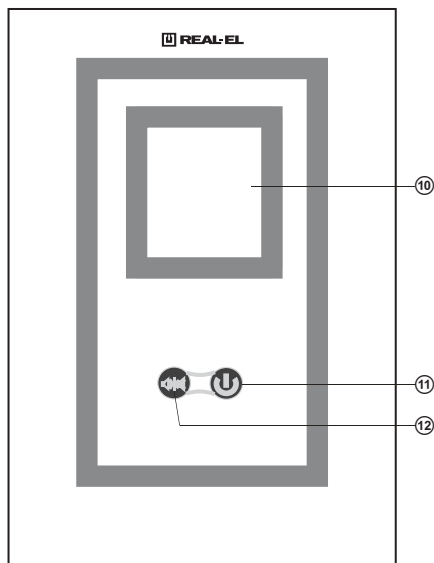
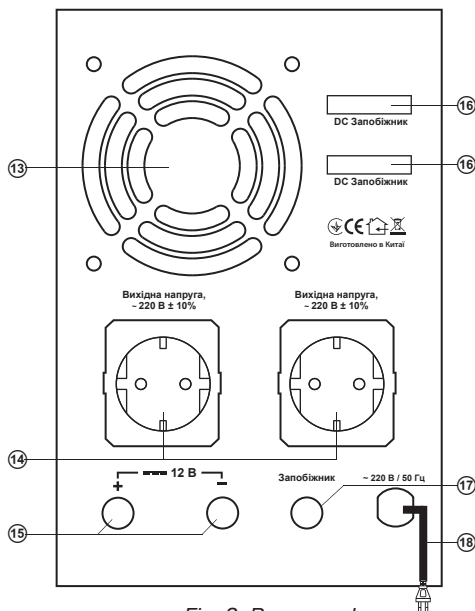

Fig. 2. Front panel
Fig. 3. Rear panel
- ① UTILITY: mains operation indicator
- ② BATTERY: operation mode from battery. It lights, when there is no input voltage or its value goes beyond its rate
- ③ ERROR: error indicator
- ④ OVERLOAD: overload indicator
- ⑤ LOADING CAPACITY: device load indicator
- ⑥ BATTERY CAPACITY: battery charge level indicator
- ⑦ OUTPUT VOLTAGE: output voltage indicator
- ⑧ FREQUENCY: frequency indicator
- ⑨ INPUT VOLTAGE: input current indicator
- ⑩ LCD display (see Fig. 2)
- ⑪ ⏻ : UPS on/off switch
- ⑫ Sound signal on/off switch
- ⑬ Battery fan (see Fig. 3)
- ⑭ Output ~220 V sockets
- ⑮ 12 V DC: terminals to connect batteries
- ⑯ DC запобіжник: safety fuses
- ⑰ Запобіжник: fuse input
- ⑱ Built-in power cord